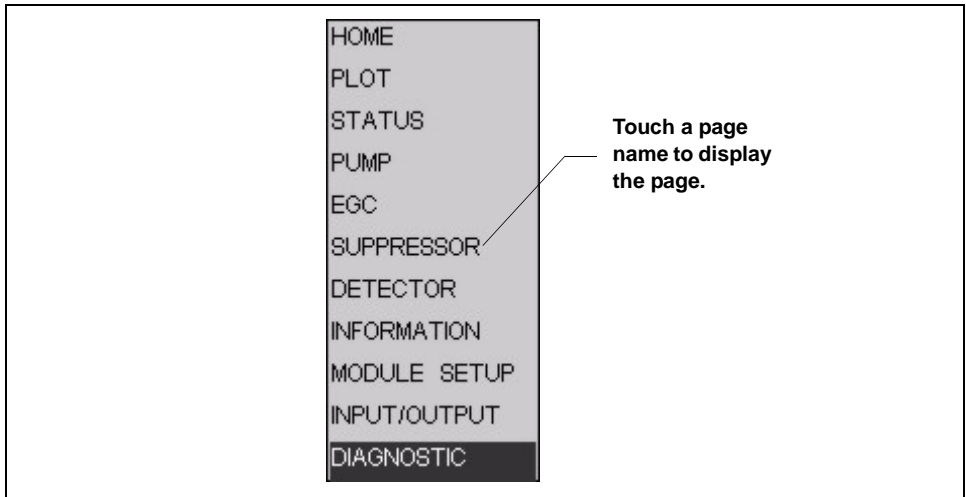

Figure B-3. ICS-2100 Touch Screen Menu of Pages
- Touching the page name (for example, ) in the bottom right corner opens a menu of pages (see Figure B-3).